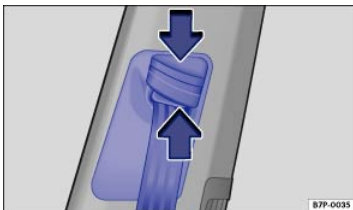

Fig. 63 Next to the front seats: Manual safety belt height adjuster.
- Press and hold the safety belt attachment ⇒ Fig. 63.
- Pinch the safety belt attachment together as indicated by the arrows and slide the seat belt attachment to the desired position ⇒ Fig. 63.